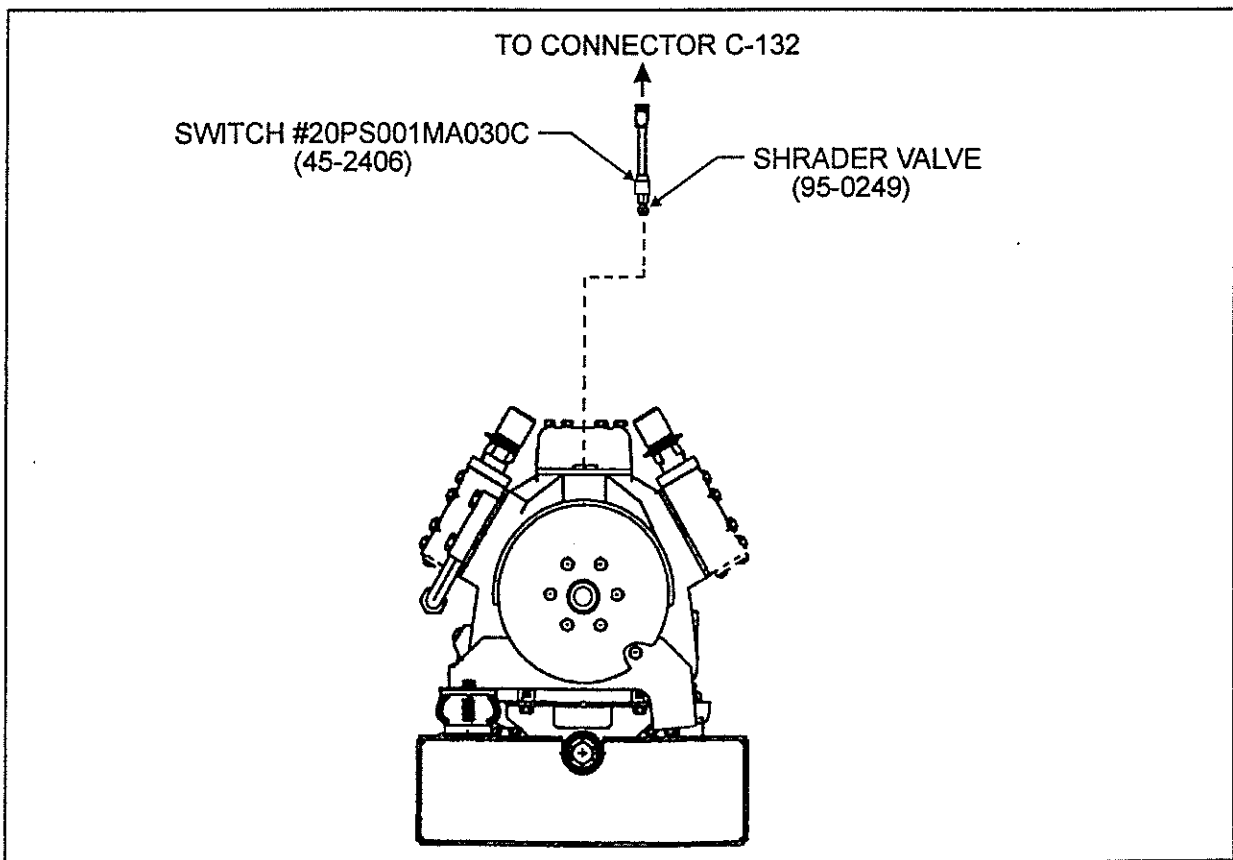

Fig. 1 - Pressure Switch Installation (Suction side)
1. Remove the low pressure switch from compressor body, discard, then install a "Schrader" valve (#95-0249) as illustrated in figure 1.